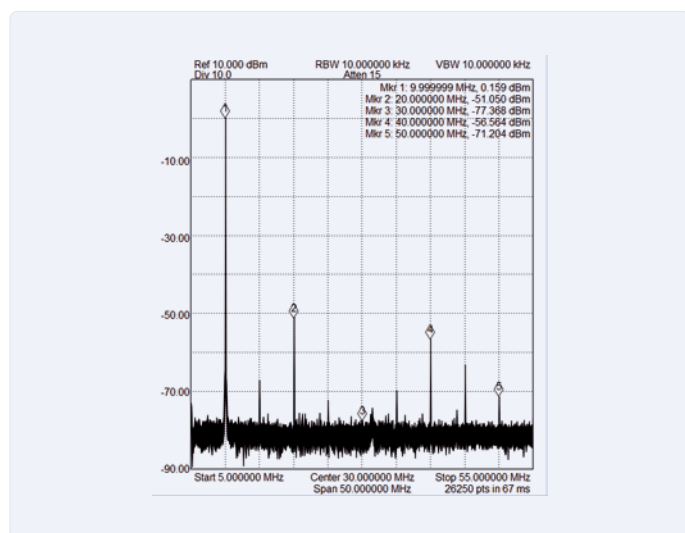

Figure 1: Spectrum of the 10-MHz signal from the signal generator, measured directly with the spectrum analyzer.
Let's get going then. For our example with the op-amp, we'll use a signal generator to produce a sinewave signal of 10 MHz with a level of 632 mVpp and connect its output to the input of the op-amp. To the latter's output we then connect a spectrum analyzer (SA). For our first examination of the resulting spectrum we set the analyzer's frequency range to cover from 5 MHz to 55 MHz. The screen of the spectrum analyzer might then look as seen in **Figure 1**.